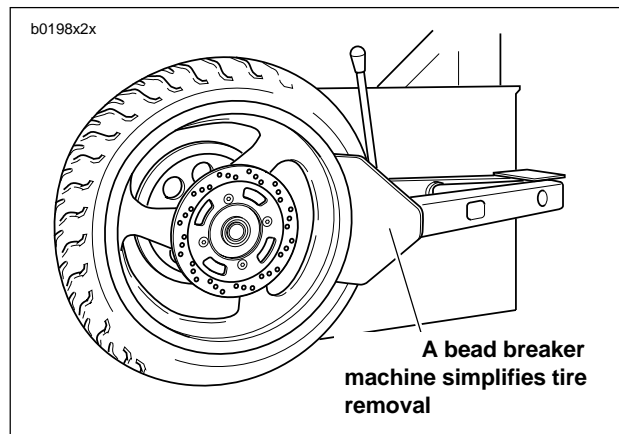

Figure 2-15. Loosening Beads from Rim Flange
3. See Figure 2-15. Loosen both tire beads from rim flange.